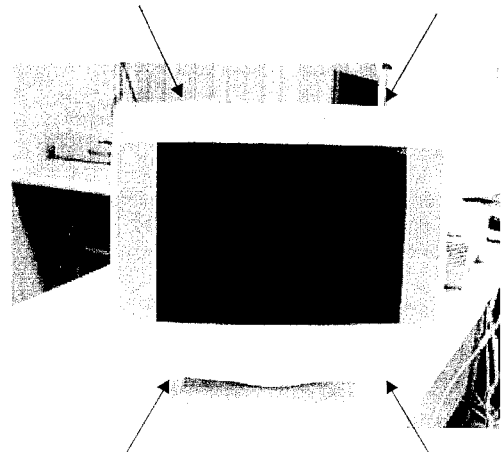

Fig. 2
- Release 4 plastic clamps, see Fig. 2.